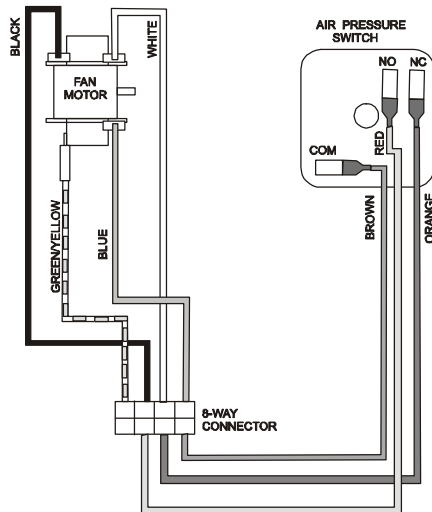

Figure 64 - Wiring in Fan Box Schematic
3. Remove the triangular cover from the air pressure switch, and disconnect the 3 spade terminals, noting their configuration, see **Figure 64**.